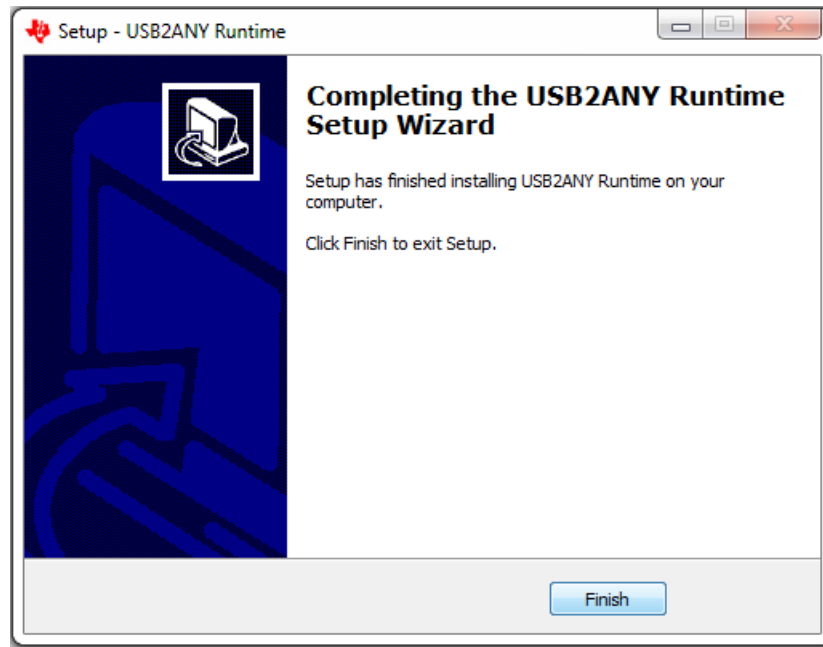

Figure 27. USB2ANY Installation Complete
14. The *USB2ANY Installation Complete* window (Figure 27) appears, indicating the completion of the USB2ANY installation. Click the *Finish* button.